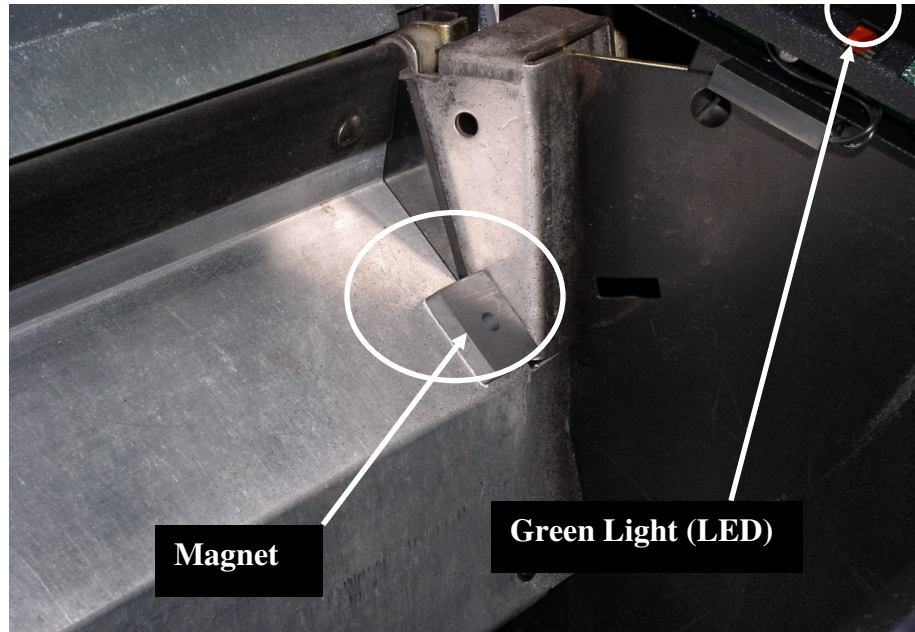

Figure 8 (Typical representation)
8) Locate magnet, included in kit (VE 9308A) with two-sided tape intact, on right side of delivery door. **Note: Do not remove backing on two-sided tape, until ready to permanently affix. (Figure 8)**
9) Move delivery door up and down. Green light (LED) on sensor board should go on when door is $\frac{1}{2}$ to $\frac{2}{3}$ open and go off when delivery door is $\frac{3}{4}$ closed. Adjust magnet to get proper results. When proper placement is found, remove backing on two-sided tape and affix firmly to delivery door. **(Figure 8)**